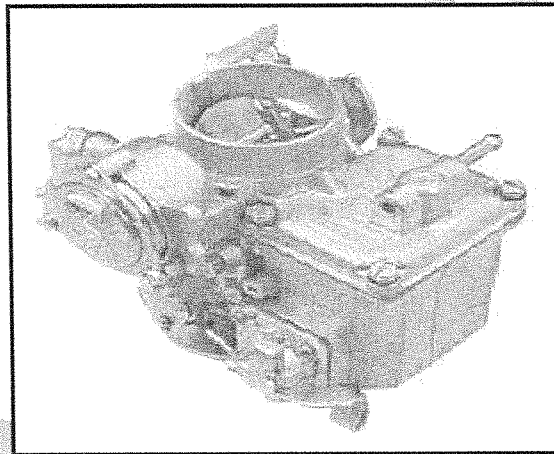

FIGURE 3
- 5.1 FIGURE 3 shows a carburettor that is used in vehicles.